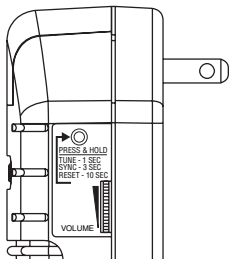

Figure 2
4. **Adjust volume control to desired volume** (see Figure 2).